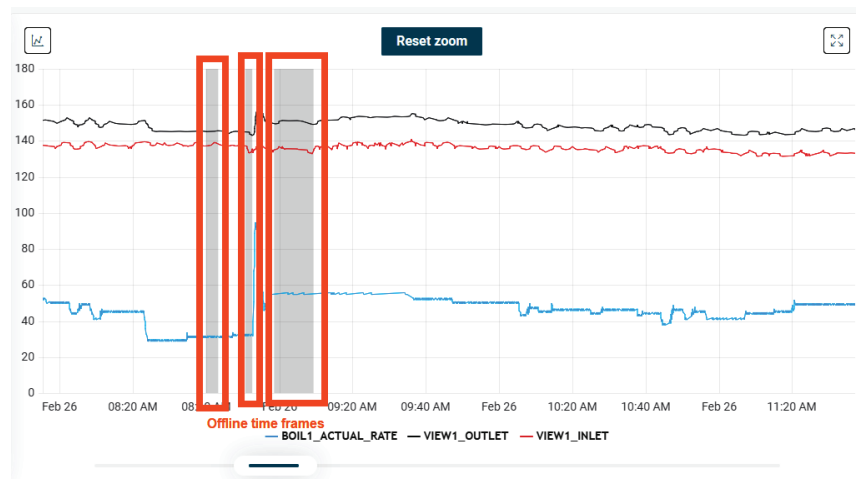

Figure 74. Temporal Discontinuity Illustration
7. Please note that certain time frames the unit might be offline or disconnected from network, such time frames are grayed out on graph. See **Figure 74**.